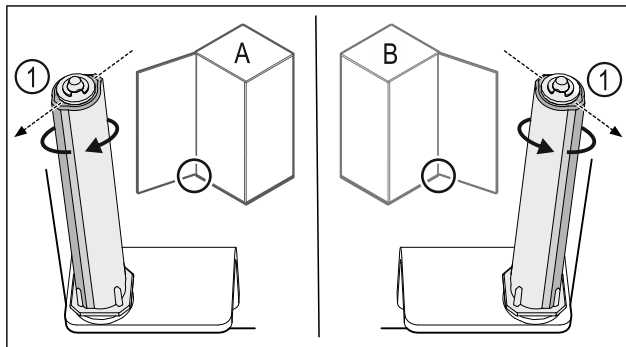

Fig. 45 Left stop (A) / right stop (B)
- Turn the closing system against the resistance until the bridge of the closing system Fig. 45 (1) shows outward.